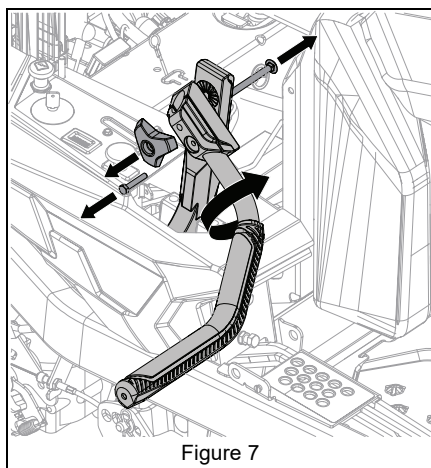

Figure 7
1. Remove clamping bolt and adjustment knob. Rotate steering control handlebar tube 180° to operating position. See Figure 7.